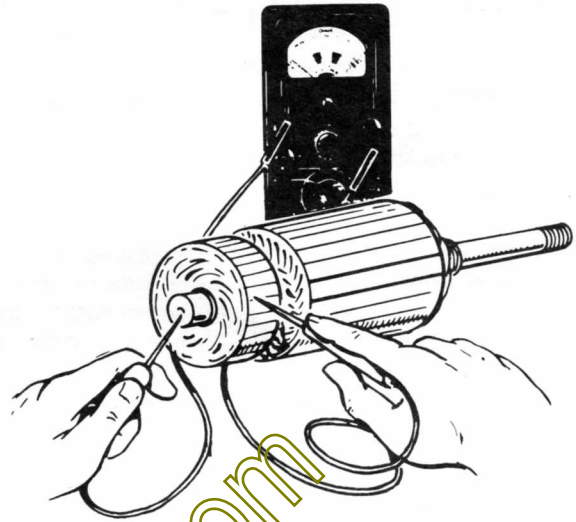

FIGURE 48. TESTING ARMATURE FOR GROUNDS
Replace grounded armature. See Figure 48.
1. **Testing Armature for Grounds:** Touch armature shaft or core and the end of each commutator bar with a pair of ohmmeter leads. If the ohmmeter reading is low, it indicates a grounded armature. Replace grounded armature. See Figure 48.